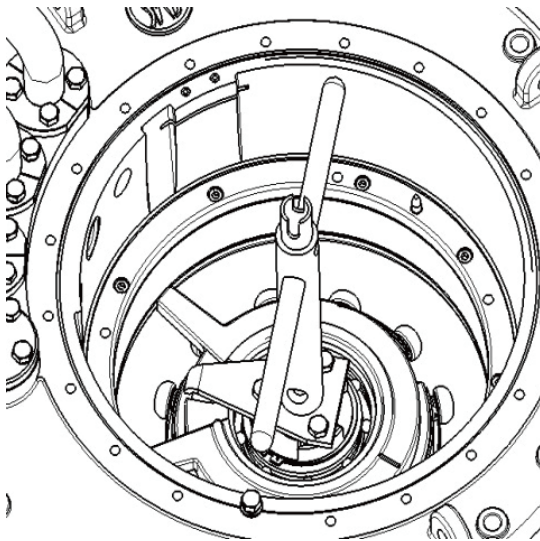

Figure 15 Install lifting device
- 2) Lift out the switch insert out of the oil compartment (Figure 15 & 16)) by using tap-changer lifting device (Appendix.4)